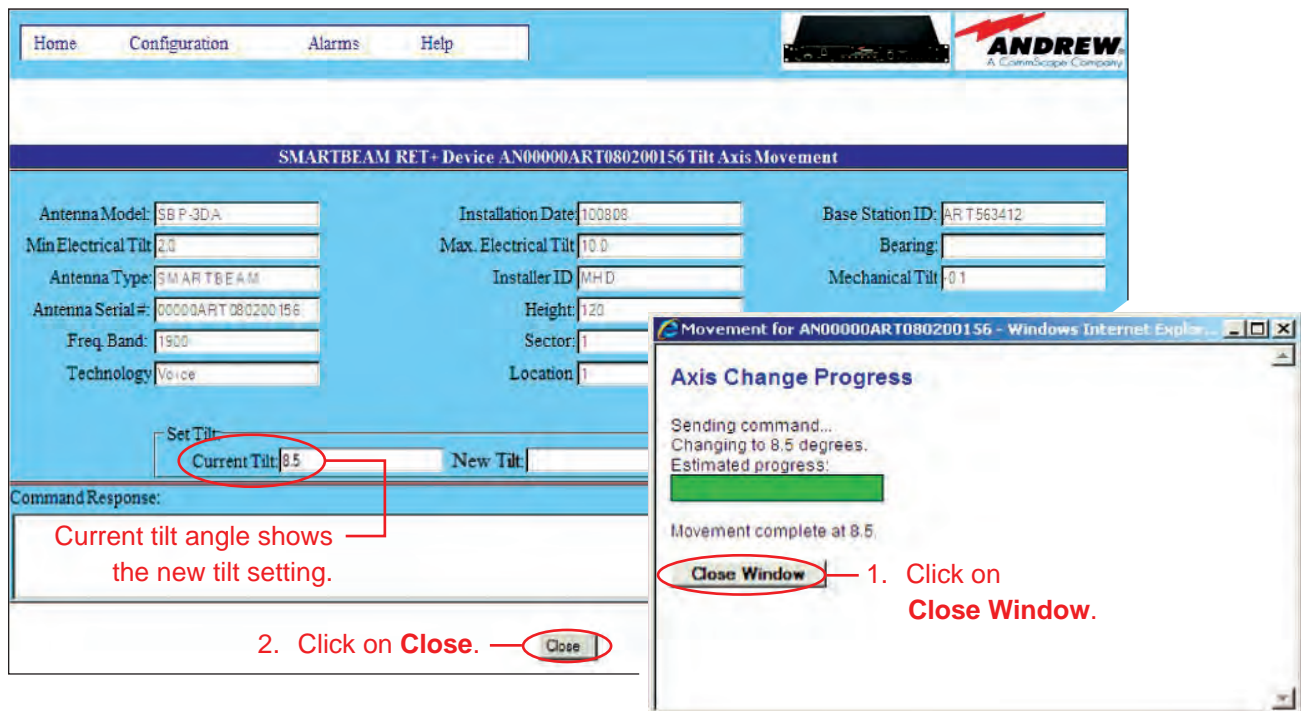

Figure 19-3. Tilt Change Complete For Single Antenna Move.
5. A progress indicator bar will appear in a pop-up window to continually provide an update for as long as the move is in progress. You will be notified when movement is complete. Click on **Close Window** from the pop-up window (Figure 19-3).
6. After the antenna has completed movement to its new tilt angle, the new angle will be displayed in the **Current Tilt** field and the **New Tilt** will be cleared in preparation for the next move (Figure 19-3).
At this point, you may click on **Close** (Figure 19-3) to return to the controller's main interface screen (Figure 19-4). Alternately, this process may be repeated to further adjust the downtilt or to reapply changes where movement had previously failed, such as a temporary mechanical jam.